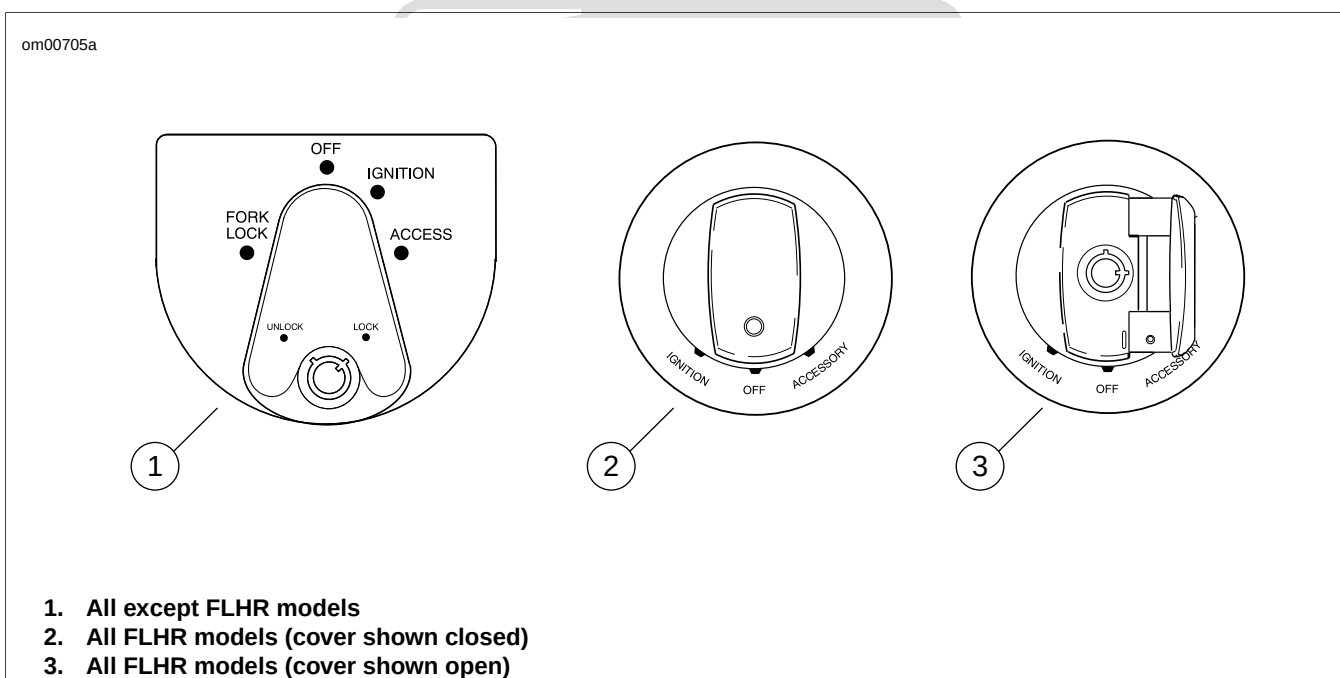

Figure 3-8. Ignition Switch: Touring Models
- See Figure 3-8. "Key ON" means that the Ignition Switch is turned to IGNITION and the Engine Stop Switch is set to RUN (although the engine is **not** running).